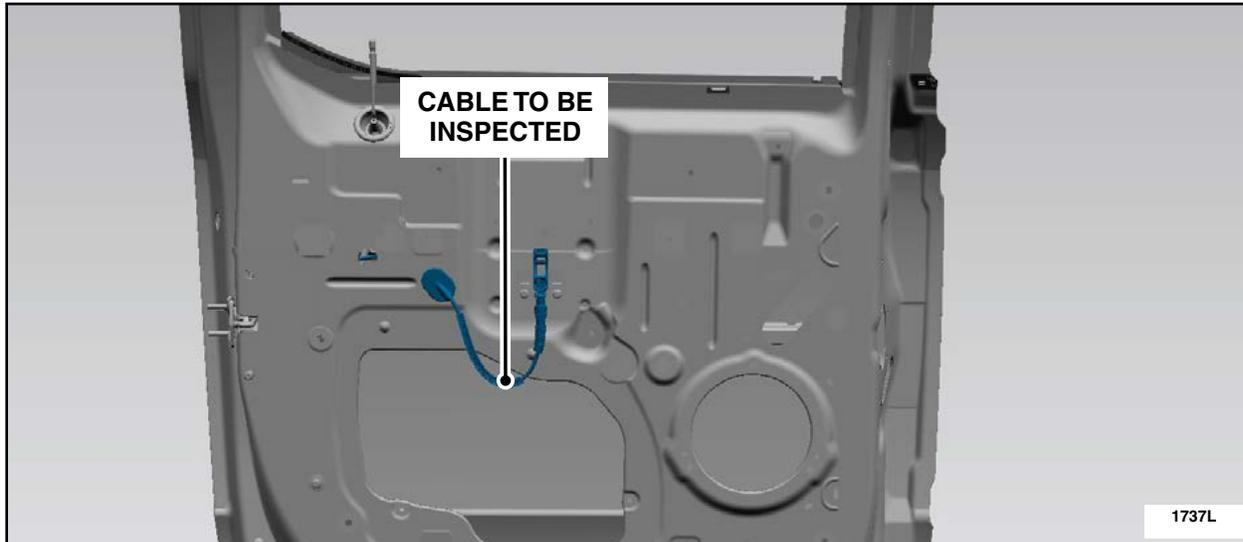

FIGURE 34
3. Inspect the interior door handle to latch release cable for kinking. See Figure 34.